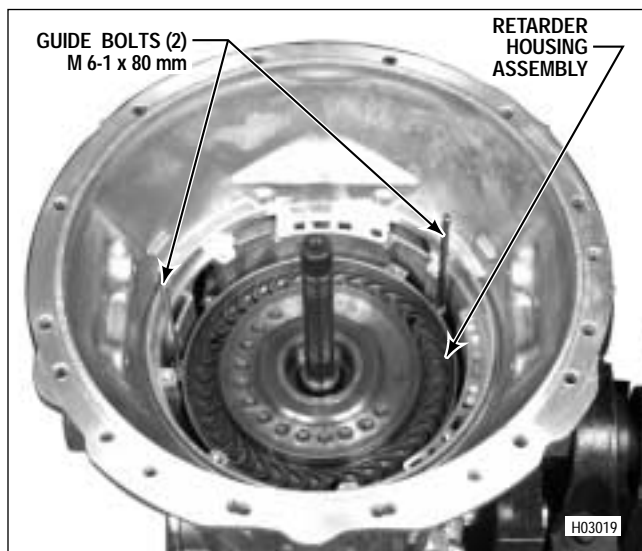
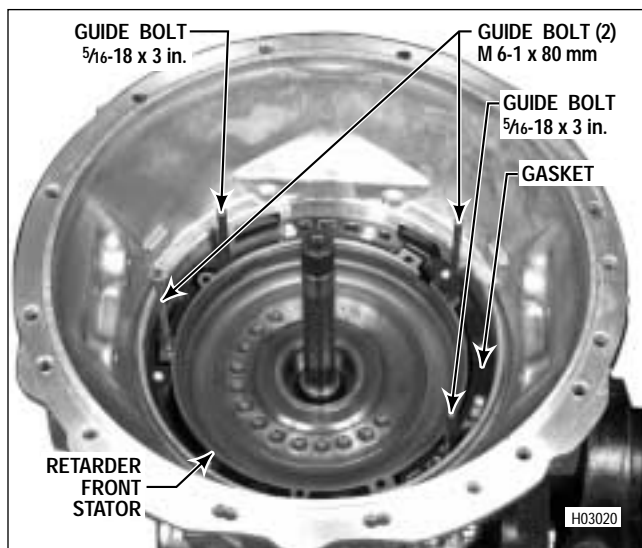
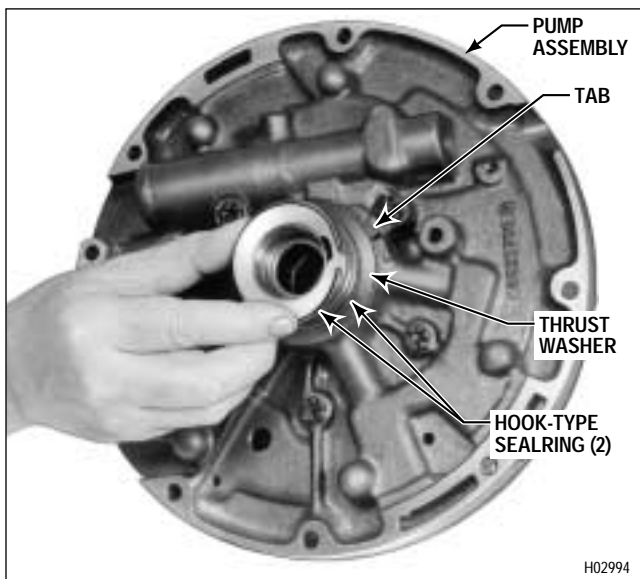

Figure 7-23. Installing Retarder Housing Assembly Guide Pins (Models With Retarder)
Figure 7-24. Installing Retarder Front Stator (Models With Retarder)
Figure 7-26. Installing Hook-Type Sealrings Onto Oil Pump Assembly
- For models with retarder, proceed with Step (4).
- For models without retarder, skip Step (4) and proceed with Paragraph 7-8.
(4) For models with retarder, install two M6-1 x 80 mm guide bolts into the retarder housing assembly (Figure 7-23). Install the front stator, stator blades first, aligning the holes in the stator with the holes in the retarder housing assembly (Figure 7-24).
(1) Using oil-soluble grease, install the thrust washer selected in Paragraph 7-8a(3), onto the oil pump assembly (Figure 7-26). The tab on the washer must engage the cast recess in the front support.
(2) Install two hook-type sealrings onto the hub of the front support (Figure 7-26).
(3) Lubricate the sealrings and thrust washer with oil-soluble grease.
(4) Install the front support gasket, aligning the bolt holes in the gasket with those in the transmission housing (Figure 7-24 or 7-27).
(5) Install two 5/16-18 headless guide bolts into two opposite holes in the gasket and transmission housing (Figure 7-24 or 7-28).